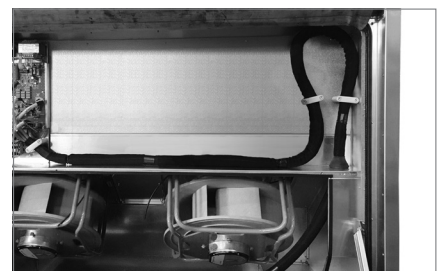

Fig. 38: Fixing the wiring harness in the roof unit
- Depending on the length of the connection module, the wiring harness has a little excess length. Fix it with the cable clamps in the roof unit (see Fig. 38).